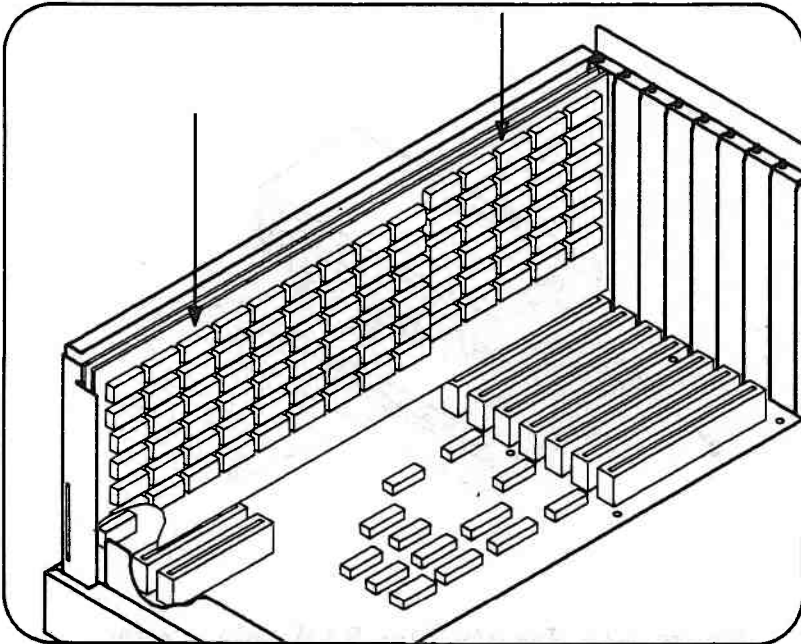

Figure 3-19. Inserting the Memory Expansion Board
18. Gently insert the Memory Expansion Board into the first dual connector expansion slot on the Bus Converter Board (Figure 3-19).